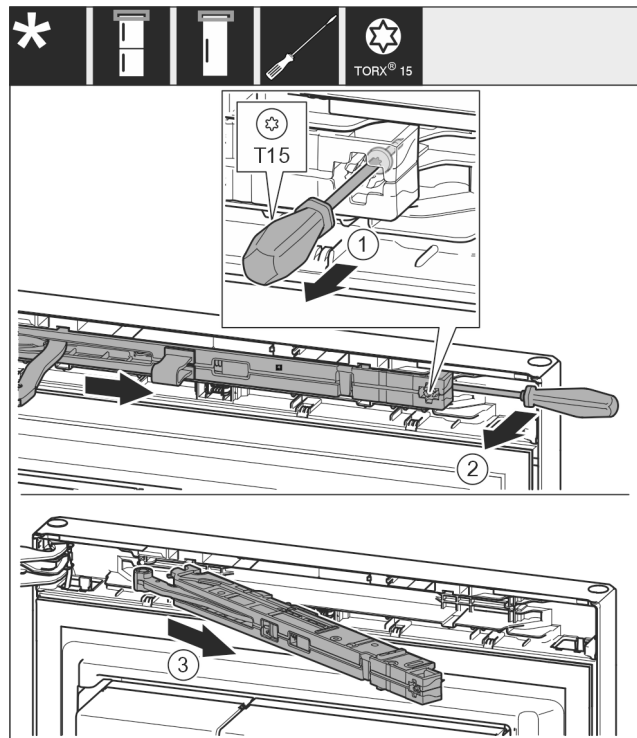

Fig. 10
- Loosen the soft stop unit screw with a T15 screwdriver approx. 14 mm (0.55 in). Fig. 10 (1)
- ▶ Insert a screwdriver behind the soft stop mechanism on the handle side and rotate the unit forwards. *Fig. 10 (2)*
- ▶ Pull out the soft stop unit. *Fig. 10 (3)*